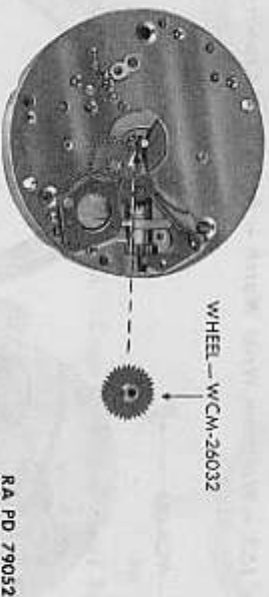

Figure 156 — Waltham Wrist Watch — Hour Wheel Removed
- g. Remove Hour Wheel (fig. 156). Remove hour wheel by lifting it off with tweezers.
**j. Replace Hour Wheel (fig. 156).** Invert movement on movement block and replace hour wheel.